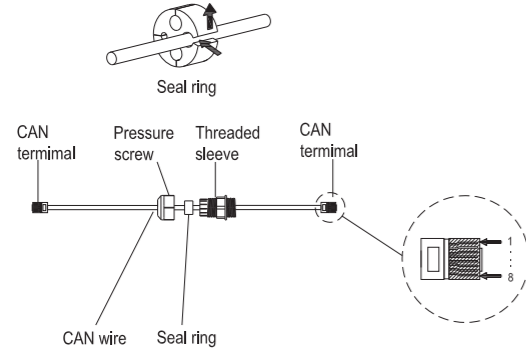
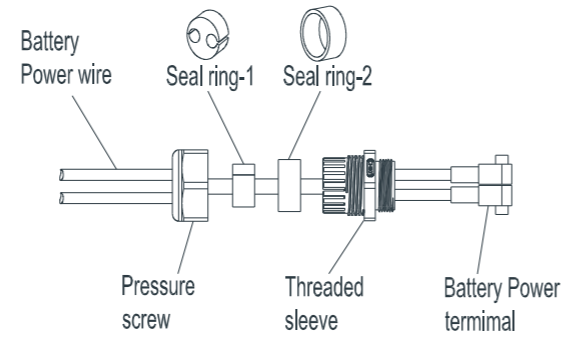
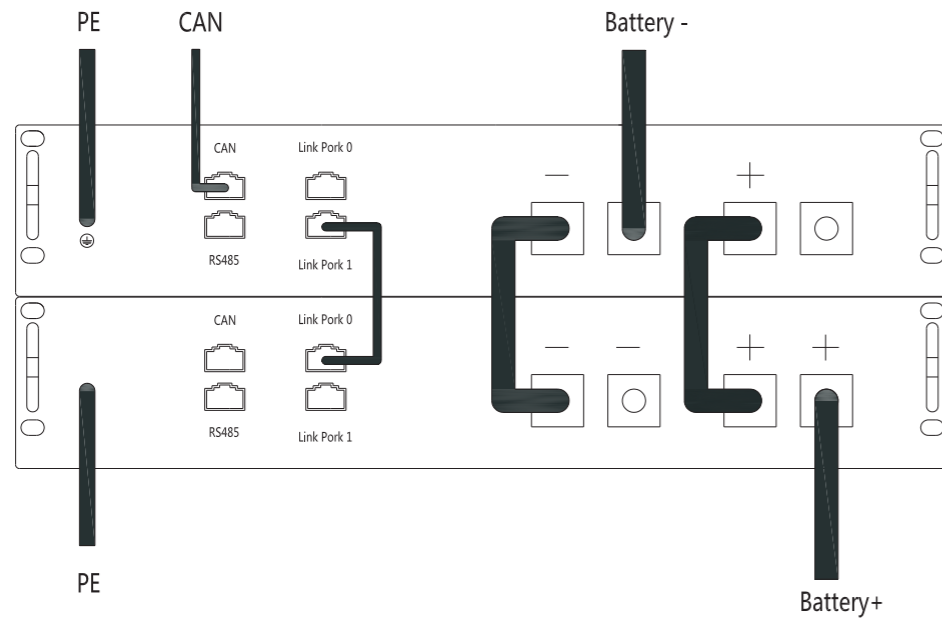
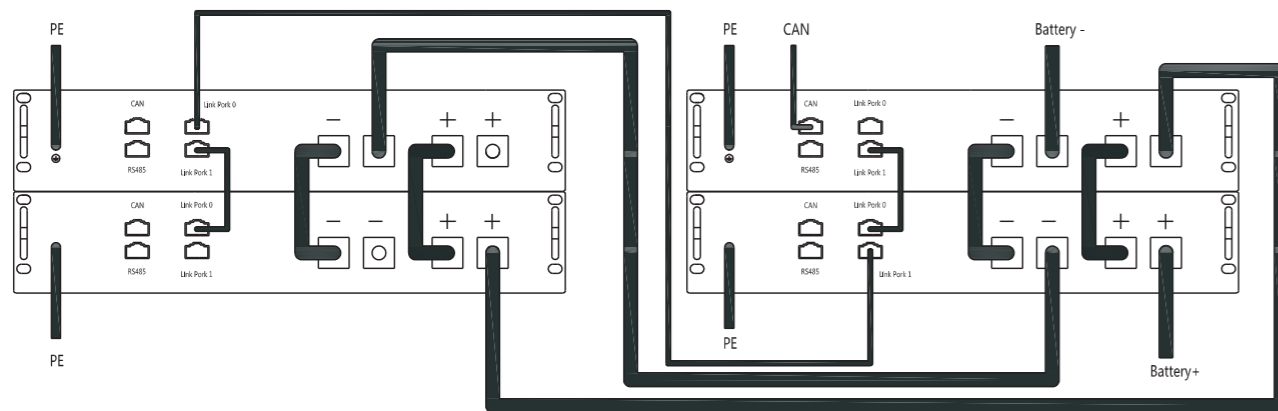

Figure 12. Pork wiring
Figure 13 .Battery Power wiring
Figure 14 .parallel connection of two batteries
Figure 15. parallel connection of four batteries and two battery boxes
1. Pass the CAN signal wire through the fastening nut, waterproof rubber plug and waterproof cover (as shown in Figure 12), connect one end to the battery (as shown in Figure 14 and Figure 15 CAN), and connect the other end to the energy storage machine;
2. Pass the power lines of the red-black battery through the fastening nut, waterproof rubber plug and waterproof cover successively (as shown in Figure 13), connect the internal battery cables in parallel (as shown in Figure 14), and connect the battery boxes in parallel (as shown in Figure 15);